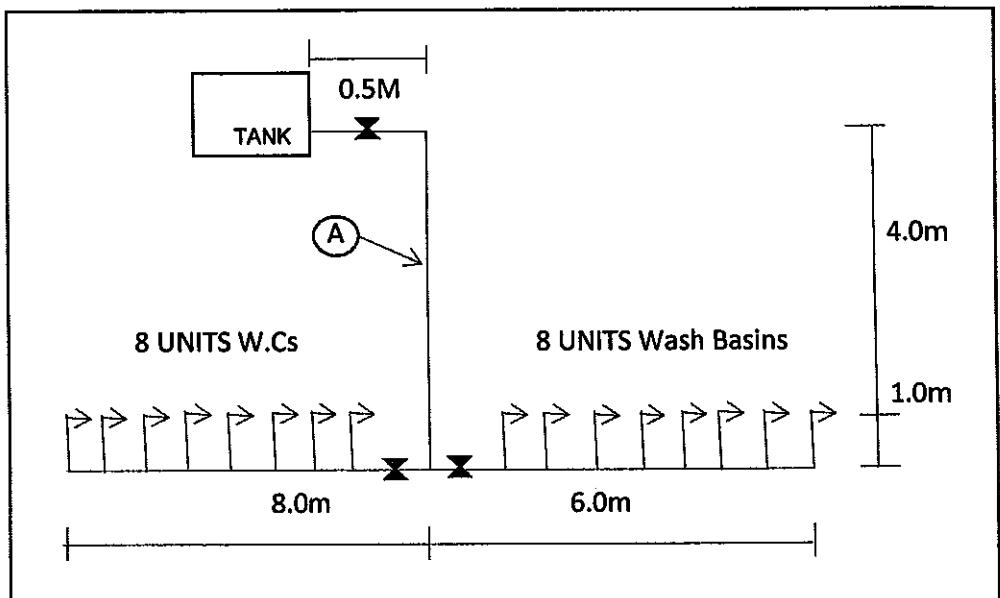

FIGURE 1
- c) Determine the diameter of the main pipe for cold water supply for a single storey office block shown in Figure 1. (Refer Table A, B, C and D).